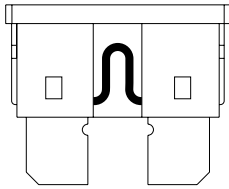

FIGURE 23. WORKING FUSE
- Examine the fuse to be sure it is blown. See figures 23 and 23A.